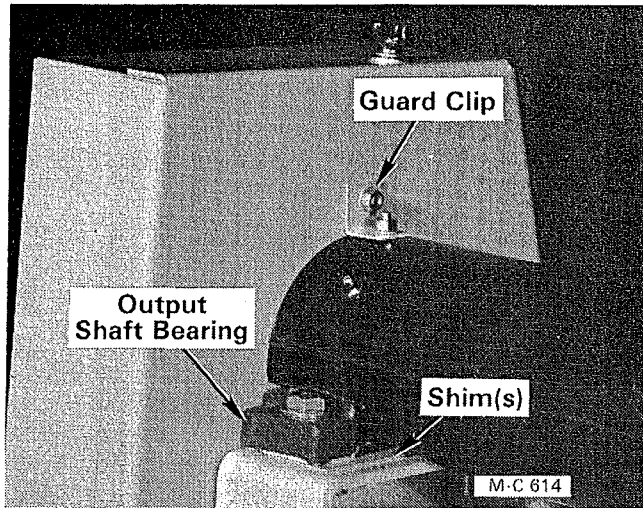
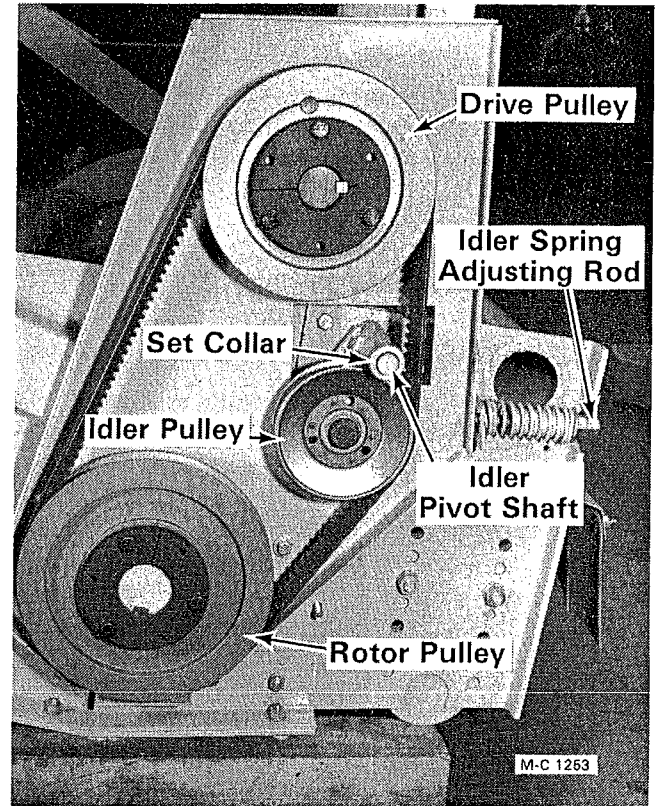

Figure 32
Figure 33 - TC Model Shown. On FM Models Rotor and Drive Pulley Are Interchanged.
3. Remove the capscrew securing the output shaft guard clip to the belt guard back plate, see Figure 32. Remove the set collar on the end of the idler pivot shaft, see Figure 33.
12. Install and lock the set collar on the end of the idler pivot shaft, see Figure 33. Bolt the output shaft guard clip to the belt guard back plate, see Figure 32.